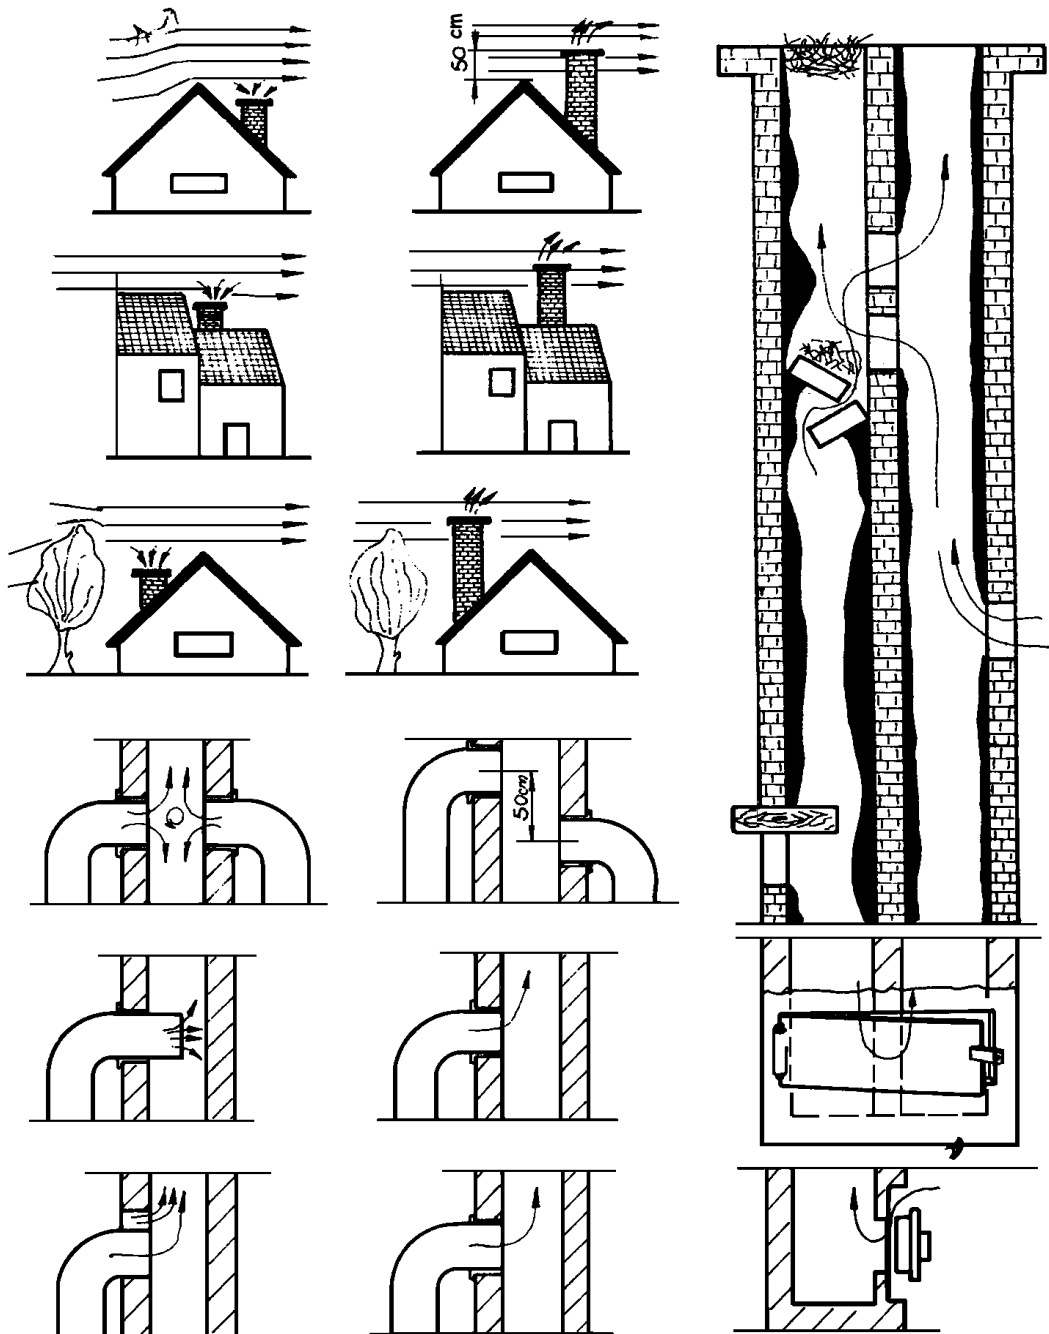

Figure 3
The flue is functioning well if it satisfies the following conditions (fig. 3):
Moving of the heating flap is performed by activating the knob (figure 3, position 11) which is positioned above the oven door. It is used for shortening of the path of flue gases during stoking. Open the heating flap only in a stage of kindling of the stove.
- * Open the primary air regulator at the highest level of air release (figure 3, position 9)